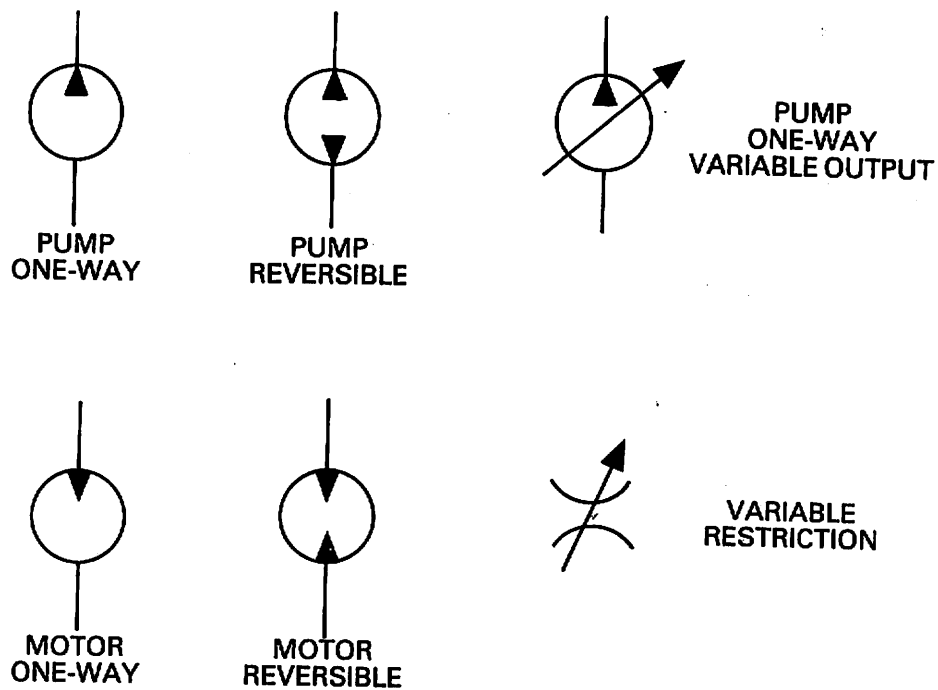

Figure 50.
- **Pumps and Motors** are represented in a very simple way (see Figure 50). The triangle ( $\blacktriangle$ ) inside the circle indicates the direction of oil flow. If they are reversible, then pumps can deliver to either line and motors can receive pressure oil from either line.